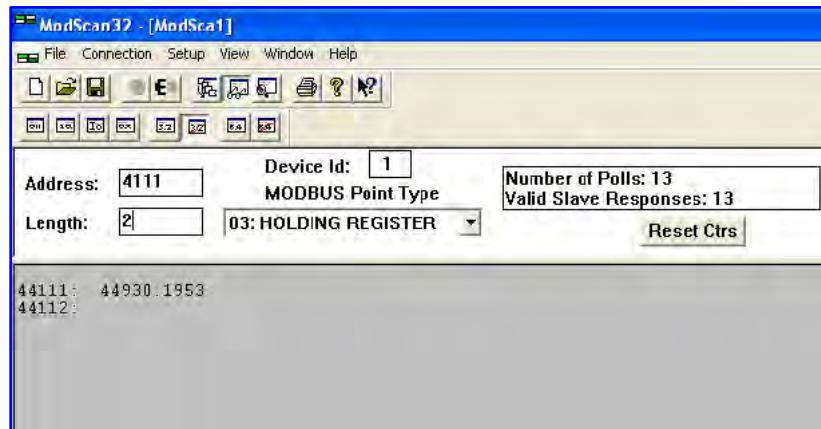

Figure 52 – ModScan32 Connected to Modbus Device with Registers 4111 and 4112 on Display (Totalizer 1 Count)
3. After entering the appropriate connection details the ModScan32 master then attaches itself to the Modbus device (ST80/ST80L) as shown in Figure 52 below. The register value displays in the bottom, gray part of the window.